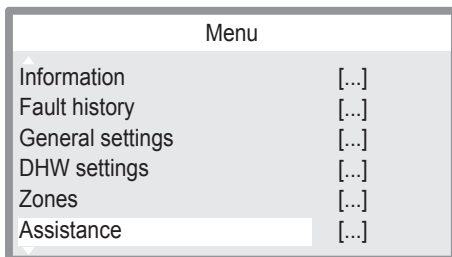

Figure 9.6
- 15 Press button "A" or "B" (Figure 9.4) to select the desired menu (Figure 9.6).